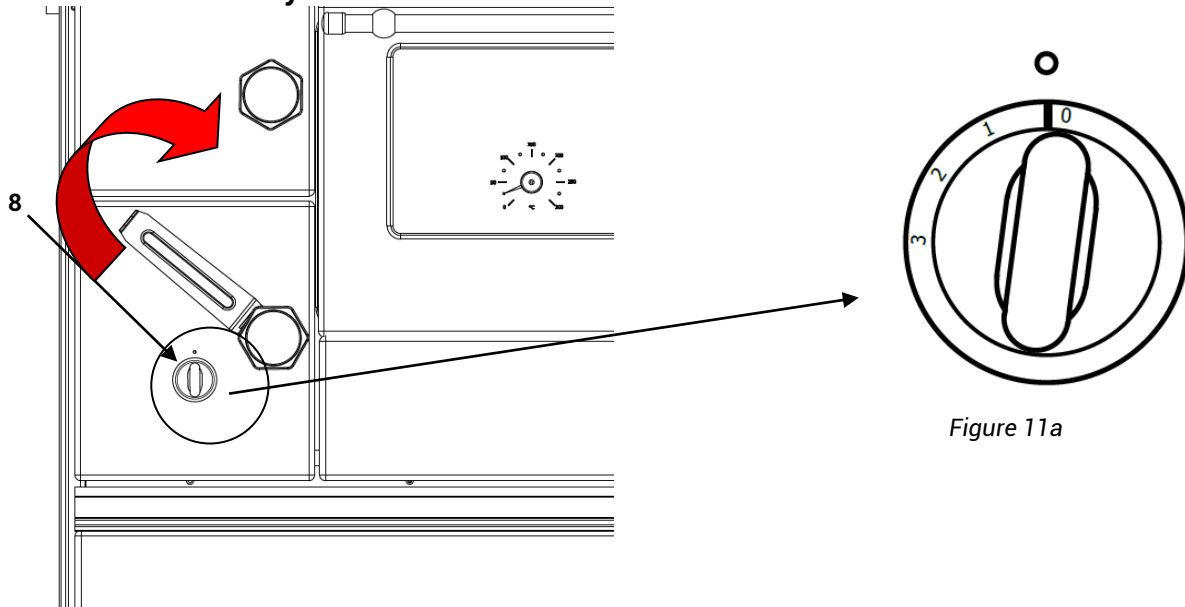

Figure 11
Firebox door and ash dump door can be opened by means of handle with mandatory use of protective gloves. In case of overheating of firebox door handle, the door can be opened and closed by means of a special wrench from the existing accessories (Figure 11).
Primary air control is achieved by means of button with marks (1-3) as shown in Figure 11 (position 8). In order to achieve optimal level of combustion and declared performances, the primary air button should be set like it is shown in figure 11a. The mark shown on the button, represents primary air regulator opened for 3mm and this position enables the best possible combustion performances.
Primary combustion air and therefore heating capacity of the cooker are defined by primary combustion air. Button on the ash dump door (Figure 11 position 8) shows the opening and closing direction of slide gate. During ignition, air control should be opened up to the maximum (button to be placed in position 3).
- Set the primary air control to position 3, maximum primary air flow (Figure 11, position 8)